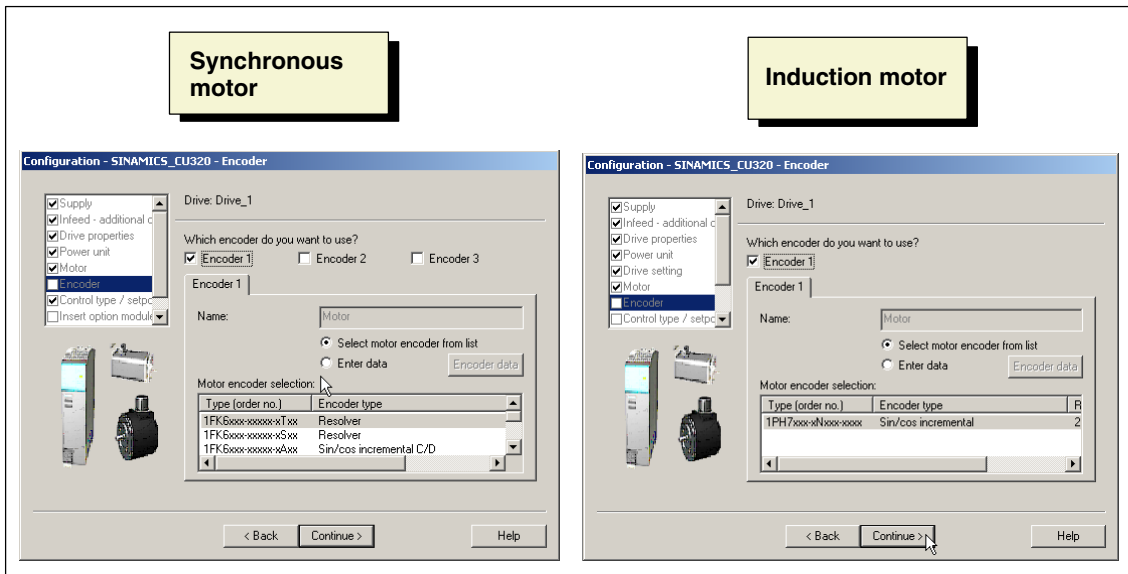

Fig. 3-21 Encoder configuration
15. Choose **Continue** > to select the encoder that is attached to the motor (see Fig. 3-21).